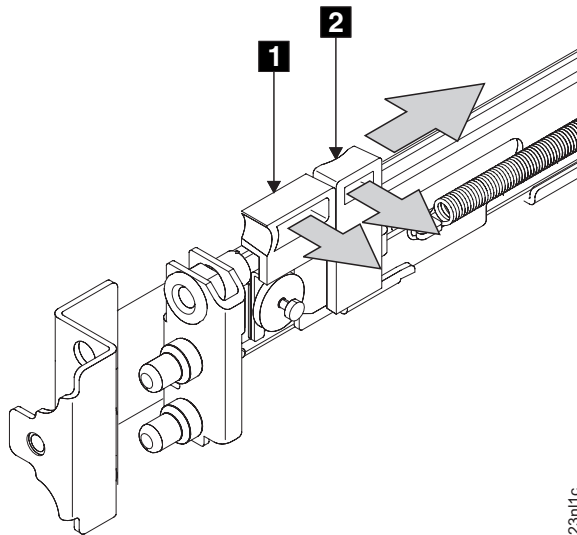

Figure 64. Opening the front latch-lock carrier assembly
3. Gently push the latch lock **2** away from the rail as you move the latch lever **1** toward the far end of the rail (Figure 64). The latch-lock carrier assembly slides against the spring tension.